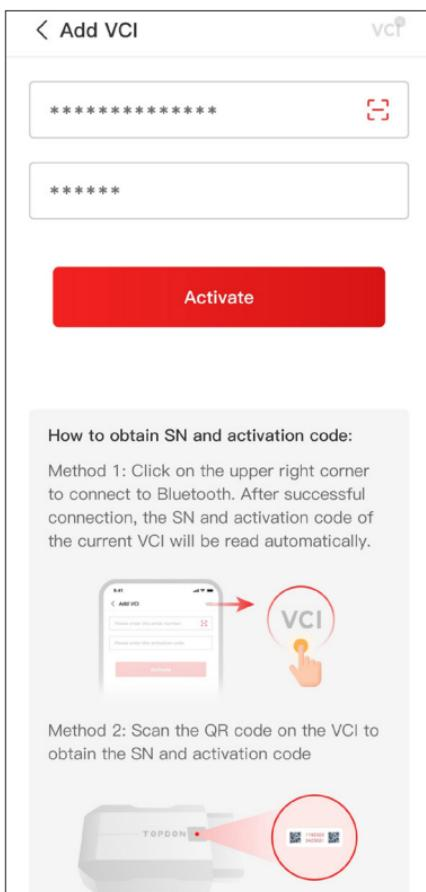

Figure 3-7
- ④ Select your device from the list of searched Bluetooth devices.
- ⑤ After successful Bluetooth connection, the SN and the activation code of the VCI will be read automatically. Then tap **Activate** (See Figure 3-7).